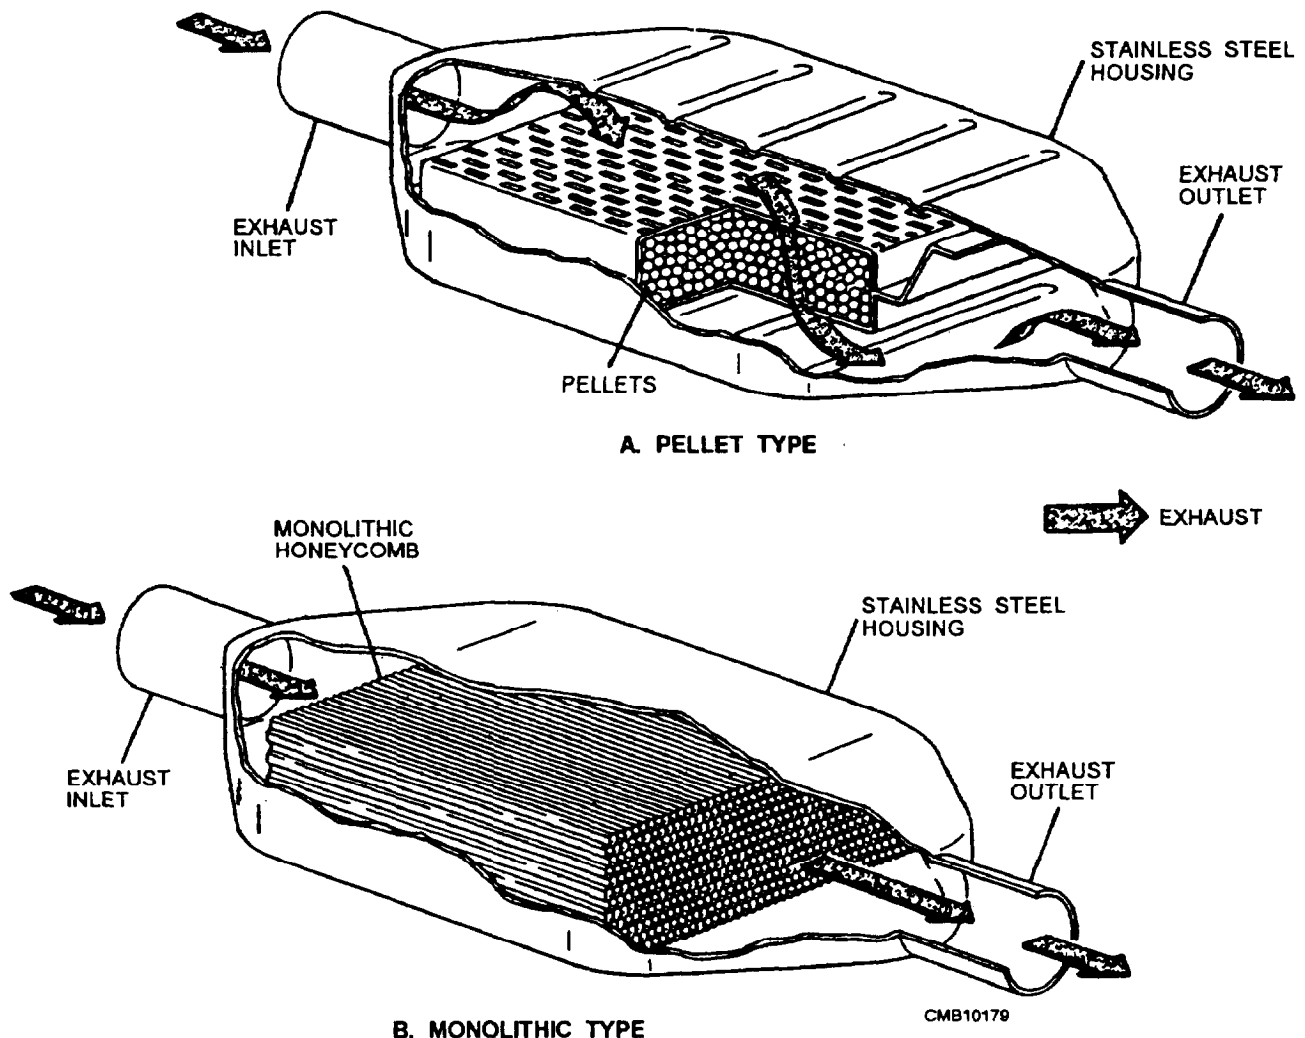

Figure 4-50.—Catalytic converter.
- **PELLET TYPE** (fig. 4-50) is filled with aluminum oxide pellets that have a very thin coating of catalytic material. Aluminum oxide has a rough outer surface, giving each pellet a tremendous amount of surface area. The converter contains baffles to ensure maximum exposure of the exhaust to the pellets.
- **MONOLITHIC TYPE** (fig. 4-50) uses a one-piece ceramic structure in a honeycomb style form. The structure is coated thinly with a catalytic material. The honeycomb shape has a tremendous surface area to ensure maximum exposure of exhaust gases to the catalyst.